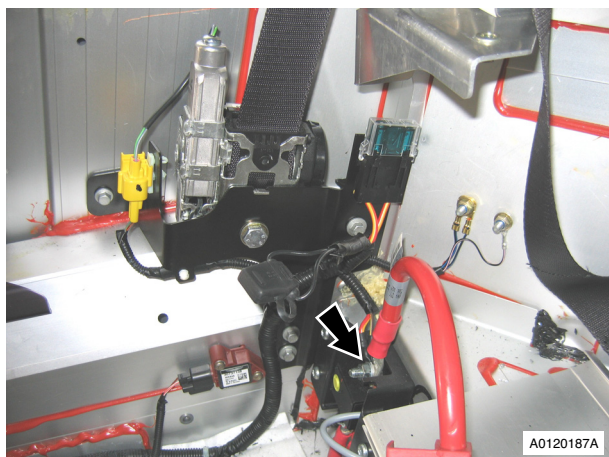

Fig. 15
49. Remove battery header (see Fig. 15).